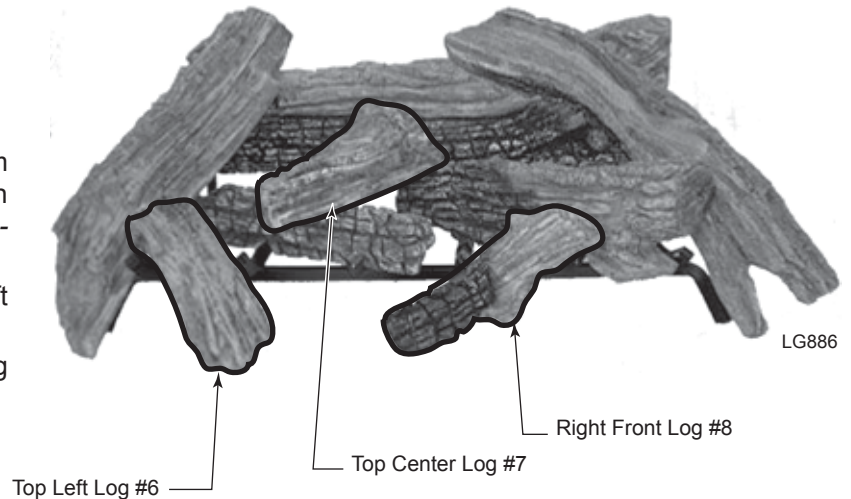

**Figure 71 -
7. Place end of Top Left Log #6 on bottom left log. Rest the other end between the first and second grate prongs. *Figure 71*
8. Rest Top Center Log #7 on bottom left log #2 and back log #1. *Figure 71*
9. Rest Right Front Log #8 on top right log #4 and front of burner pan. *Figure 71*